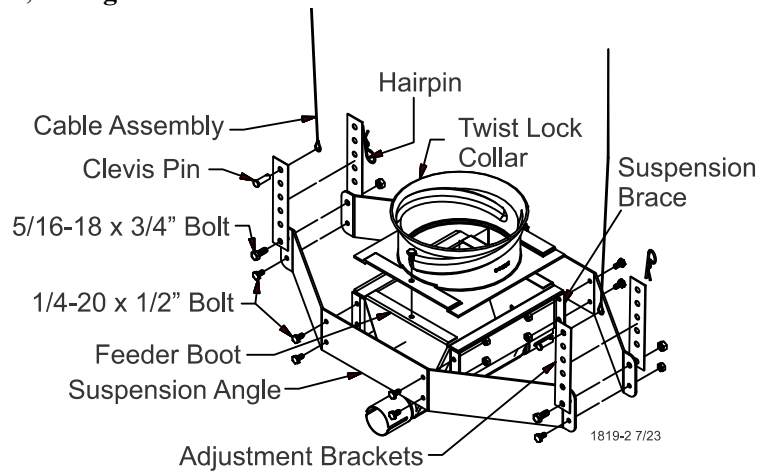

Figure 19. Hopper Assembly (Bottom)
- Assemble suspension angles and suspension braces around feeder line boot (single or twin), using 1/4-20 x 1/2" Hex bolts and nuts (supplied in hardware package), see **figure 19**.
- Assemble the twist lock collar to the top of the feeder line boot (single or twin) using 1/4-20 x 1/2" bolts and lock nuts (supplied in hardware package), see **figure 19**.
- Two cable assemblies (cable with a sleeve clamp and a 5/32 thimble) are supplied with the suspension kit to support the hopper. Attach the cable assemblies to the adjustment brackets using the top holes of the adjustment brackets, see **figure 19**.